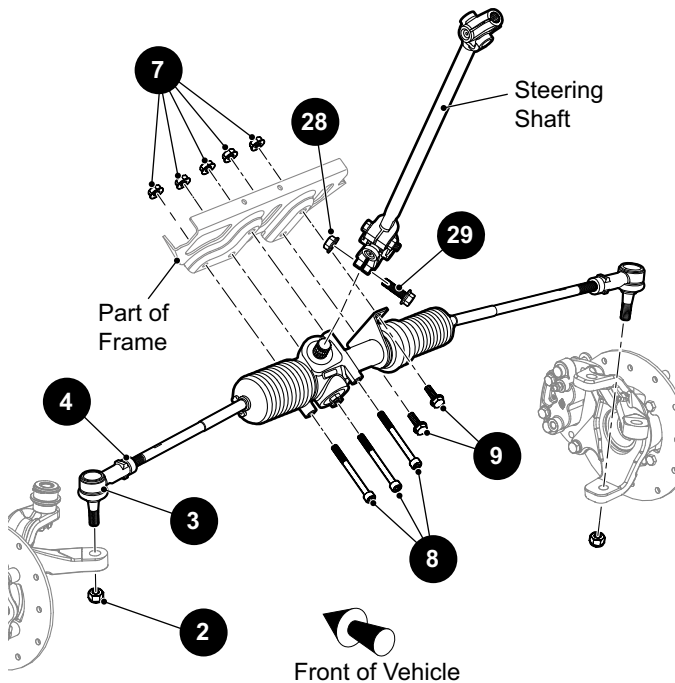

Fig. 29 Steering Rack
1. Disconnect the two wire harness connections on the EPAS unit (Ref. Fig. 29).